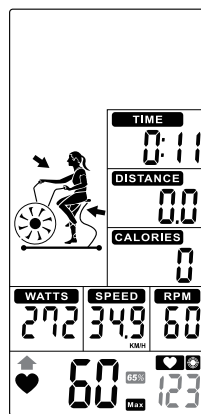

Fig. 19
*Within the display of the PULSE, MAX, 65% and 85% will be shown (Fig. 19 & 20).*
*The values for TOTAL TIME, TIME, DISTANCE, CALORIES are counted up. Also the values for WATTS, SPEED, RPM and PULSE are shown (Fig. 19–21).*
*The console indicates whether the heart rate is below 65% or above 85%. The respective icons will be shown and a signal will sound every 10 seconds until the heart rate is within the ideal area (Fig. 19–21).*